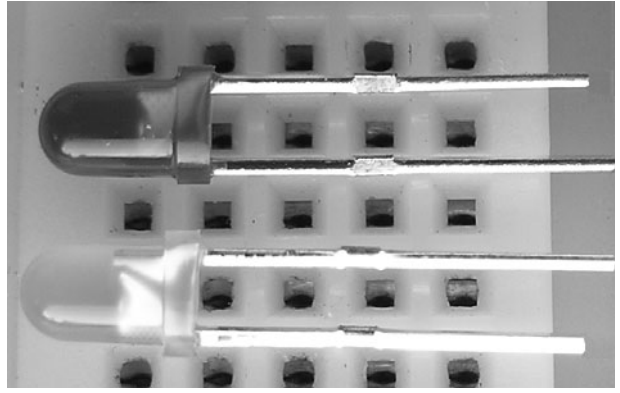

Figure L11-1
The results of this research? The phototransistor. Figure L11-1 shows both the phototransistor (darkened glass) and its corresponding infrared (IR) LED (clear glass).